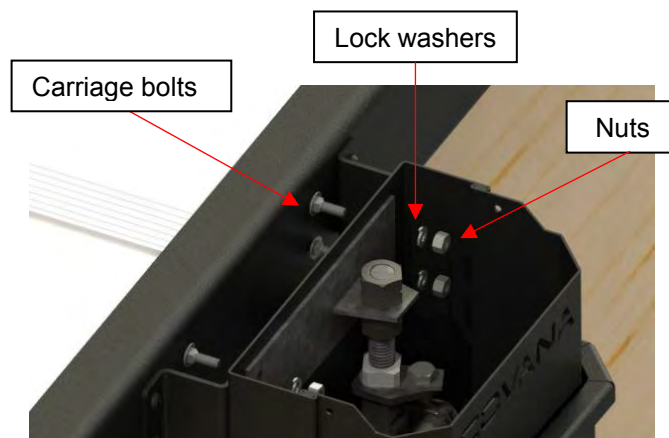

Figure 96
- 16) Slide the sleeves over the top of the jacks and fasten them using the 1/4 in.-20 x 3/4 in. carriage bolts at the top with 1/4 in. lock washers and 1/4 in. -20 nuts. Use a 7/16 in. (11 mm) socket and spanner. Repeat this step for all four jacks (Figure 96).